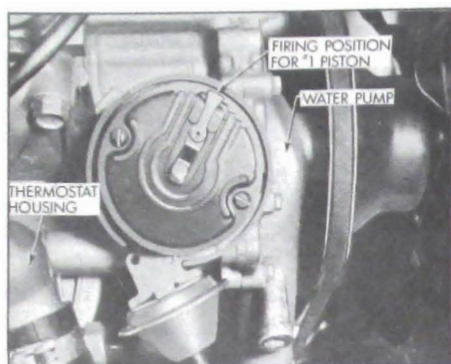

Figure 10-45—Installing Distributor in Engine (V-8)
2. Install distributor in engine with rotor in position to fire No. 1 cylinder and with vacuum control in position to connect vacuum pipe. See Figures 10-45 or 46. Install distributor clamp and bolt with lock washer, leaving bolt just loose enough to permit movement of distributor with heavy hand pressure. **NOTE:** If distributor does not seat in engine block, press down lightly on distributor housing while cranking engine with starter. After distributor tang snaps into slot in oil pump shaft, start timing again from Step 1, leaving distributor installed.
2. Make a mark on distributor base in line with center of rotor. Then carefully note the direction the vacuum unit points in relation to engine so that the distributor can be replaced in the exact position after it is serviced. See Figure 10-45 or 46. CAUTION: If engine is turned over while distributor is out, complete ignition timing procedure must be followed (par. 10-35).